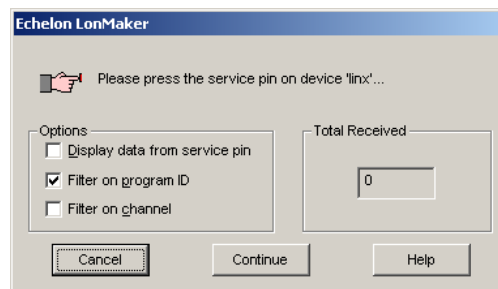

Figure 91: Wait for the service pin from the device.
7. Then the service pin requestor opens as shown in Figure 91. Press the service pin on the replacement device on the correct port. You can also send the service pin from the device information page on the Web interface.